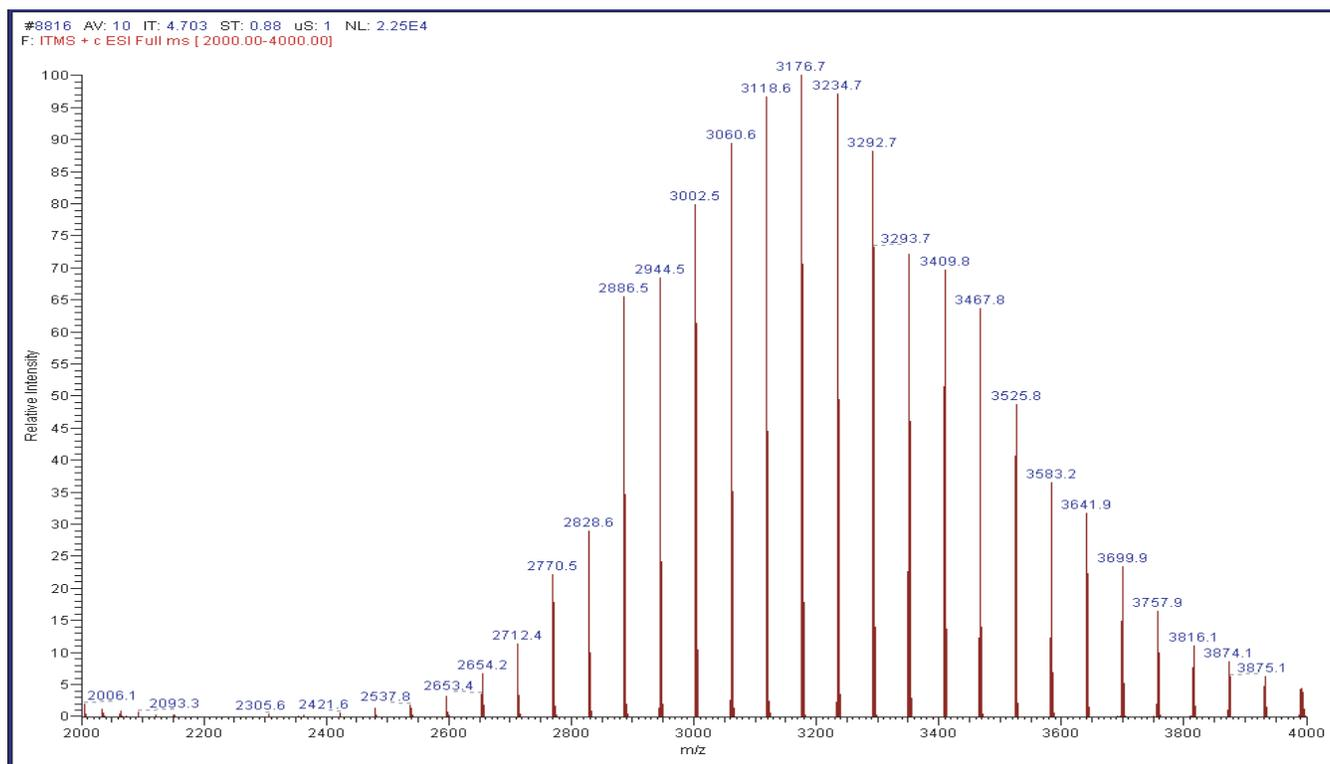

Figure 72. PPG2700 mass spectrum
2. From the Tune page go to Define Scan dialog box (see Figure 32 on page 76). In the Scan Description group box: a) choose **High** in the Mass Range spin box, b) choose **Normal** in the Scan Rate spin box, and c) choose **Full** in the Scan Type spin box. In the Scan Ranges box, type 2000 for the First Mass and 4000 for the Last Mass. Click **Apply**. The spectrum should look like that shown in Figure 72.